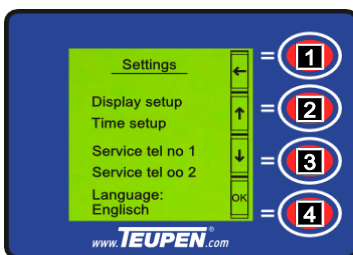

Fig. 89
6. Use the [function keys] (Fig.89/2 and 3) to select a submenu.
7. Access the selected submenu with the [function key] (Fig.89/4).
8. Return to the main menu with [function key] (Fig.89/1).